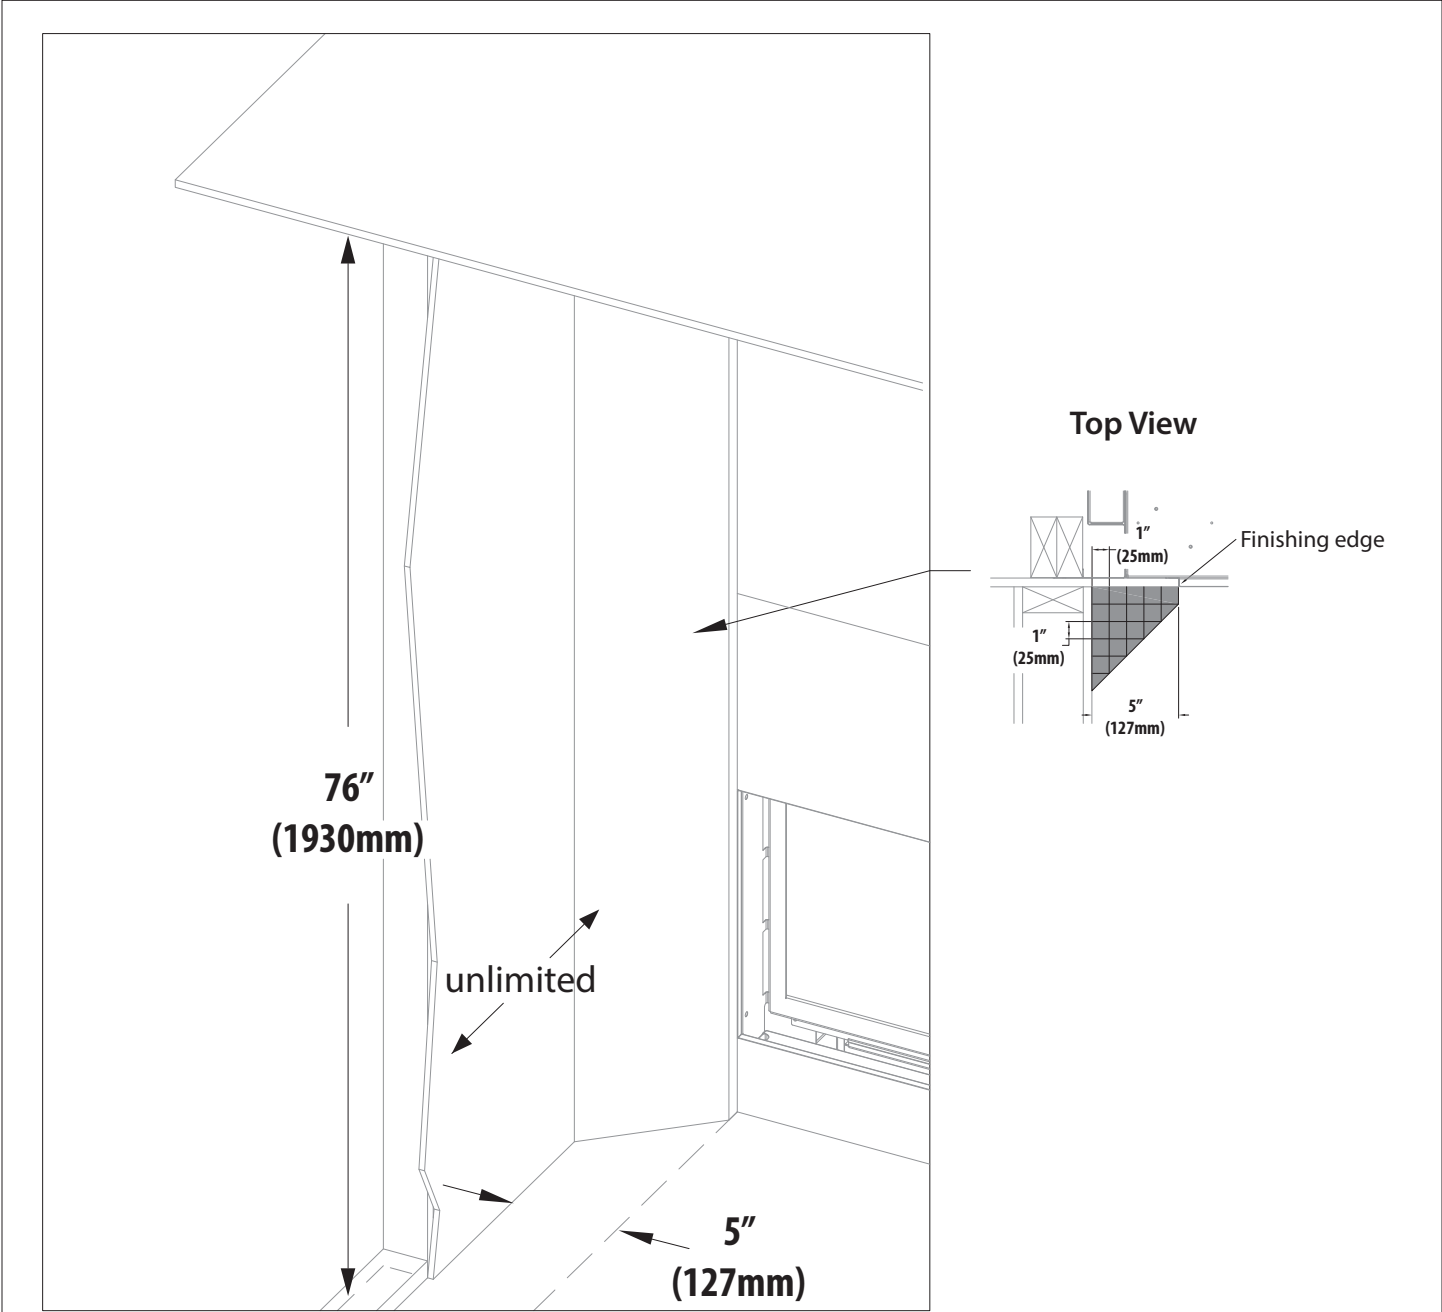

FIGURE 4.12 Vented Cavity and KZK Adjacent Sidewall Clearances - No Surround
- **Mantel Leg:** Follow 'side combustible clearance' below. See FIGURE 4.12 on page 45. *If installing an optional surround*, refer to Measurement 'A', in Section 4.4 Finishing Guidelines for Optional Surrounds on page 42, for the space required from the optional surround sides to finishing material.
- **Side Combustible Clearance:** 1" (25mm) combustible side trim can be flush with the side finishing edge. After 5" (127mm), this projection is unlimited. See FIGURE 4.12 on page 45. *If installing an optional surround*, refer to Measurement 'A', in Section 4.4 Finishing Guidelines for Optional Surrounds on page 42, for the space required from the optional surround sides to finishing material.
- The adjacent sidewall minimum clearance is 5" (127mm) from the side finishing edges of the fireplace. See FIGURE 4.12 on page 45. *If installing an optional surround*, refer to Measurement 'A', in Section 4.4 Finishing Guidelines for Optional Surrounds on page 42, for the space required from the optional surround sides to finishing material.